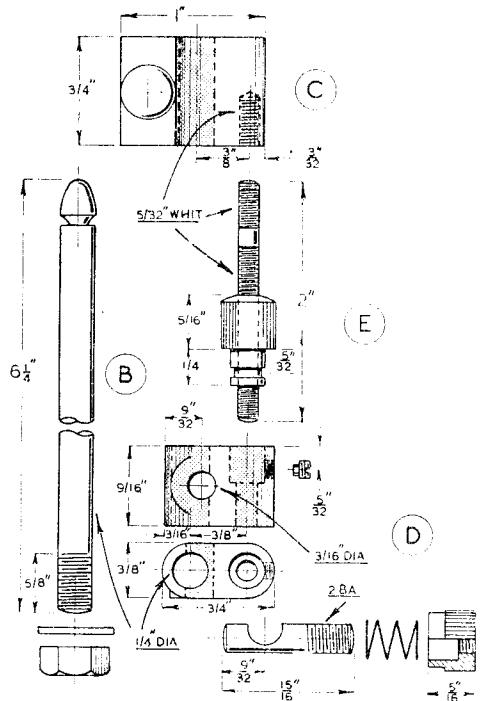

Fig. 5. "B"—the pillar; "C"—the rule clamp; "D"—the fine-adjustment bracket; "E"—the adjusting-screw
#### The Fine-adjustment Bracket (D), Fig. 5
#### The Adjusting-screw (E), Fig. 5